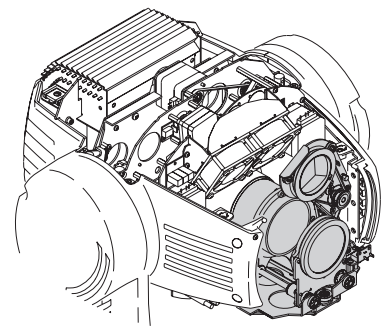

Figure 13: Zoom/focus module
2. Position the head top side up, secure it with the tilt lock and remove the top head cover. The prism sits in the zoom/focus module (see Figure 13).